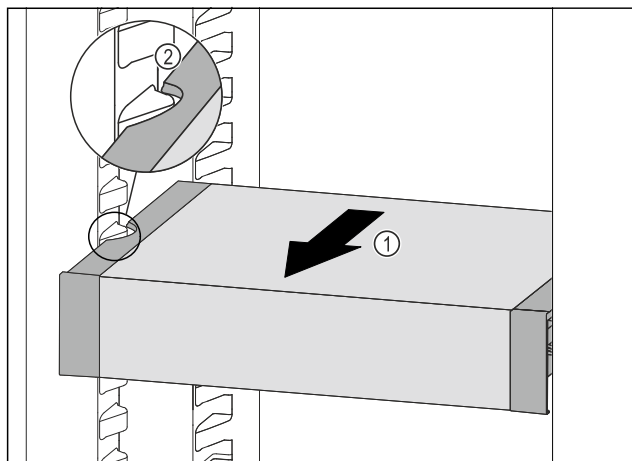

Fig. 135
- Pull VarioSafe forwards Fig. 135 (1) until the recesses in the side of the VarioSafe are at the level of the support rib in the fridge section. Fig. 135 (2)